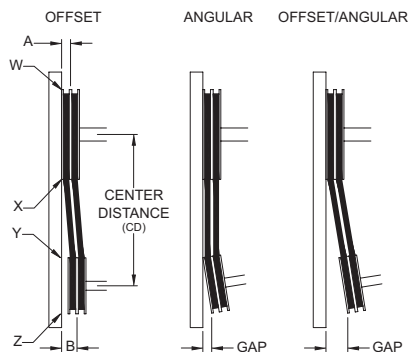
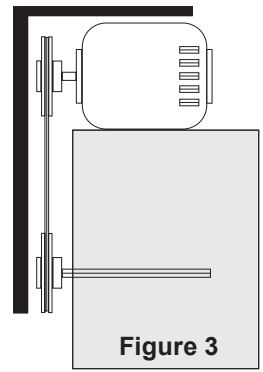

Figure 2
Figure 3
4. Ensure pulleys are properly aligned. Refer to *Figure 2*.
*Figure 2* indicates where to measure the allowable gap for the drive alignment tolerance. All contact points (indicated by WXYZ) are to have a gap less than the tolerance shown in the table. When the pulleys are not the same width, the allowable gap must be adjusted by half of the difference in width. *Figure 3* illustrates using a carpenter's square to adjust the position of the motor pulley until the belt is parallel to the longer leg of the square.